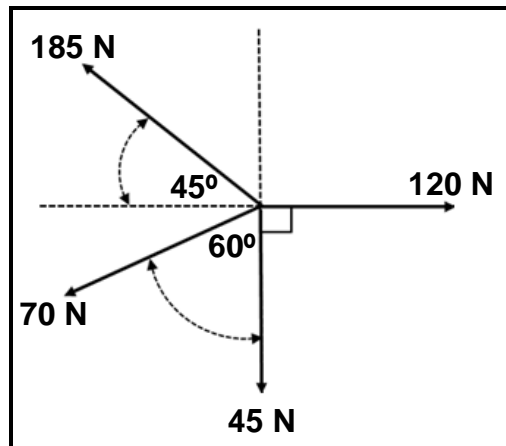

FIGURE 8.1
8.1 FIGURE 8.1 below shows a system of four forces acting onto the same point. Make use of calculations to determine the magnitude and direction of the resultant for this system of forces.
HINT: Draw and complete the diagram for the forces shown in FIGURE 8.1. To assist you, show ALL the horizontal and vertical components before you do the calculation.